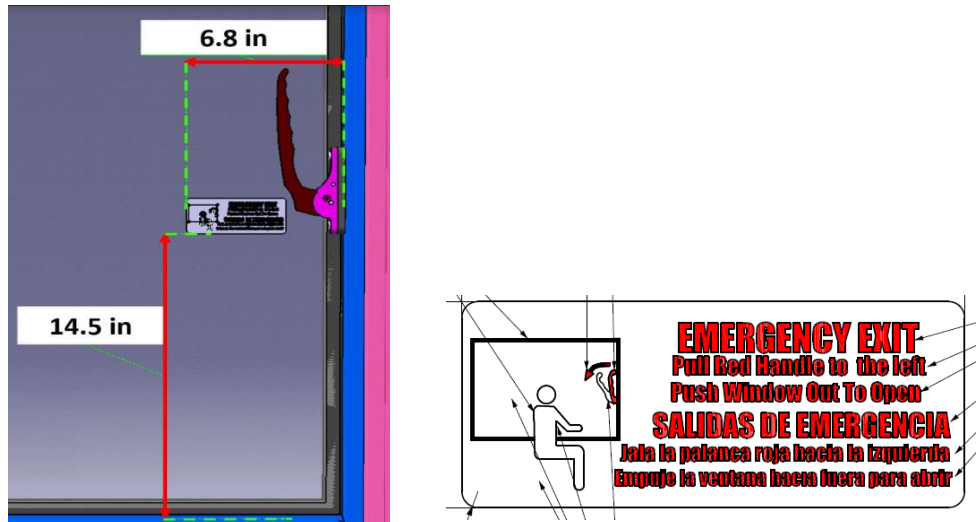

Figure-2
- Remove all labels and stick new labels by means of the given dimensions in the picture below (See Figure-2)